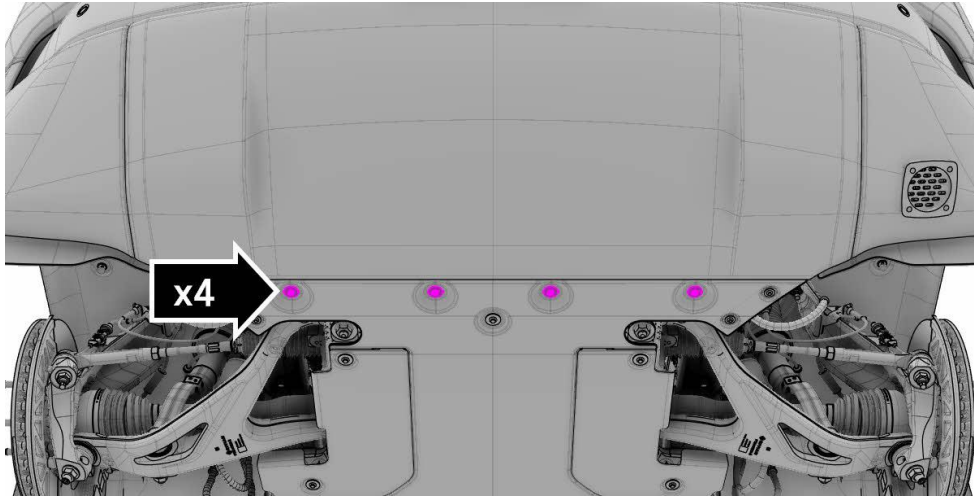

Figure 10
1. From under the front of the vehicle, remove the 4 bolts. (Figure 10)